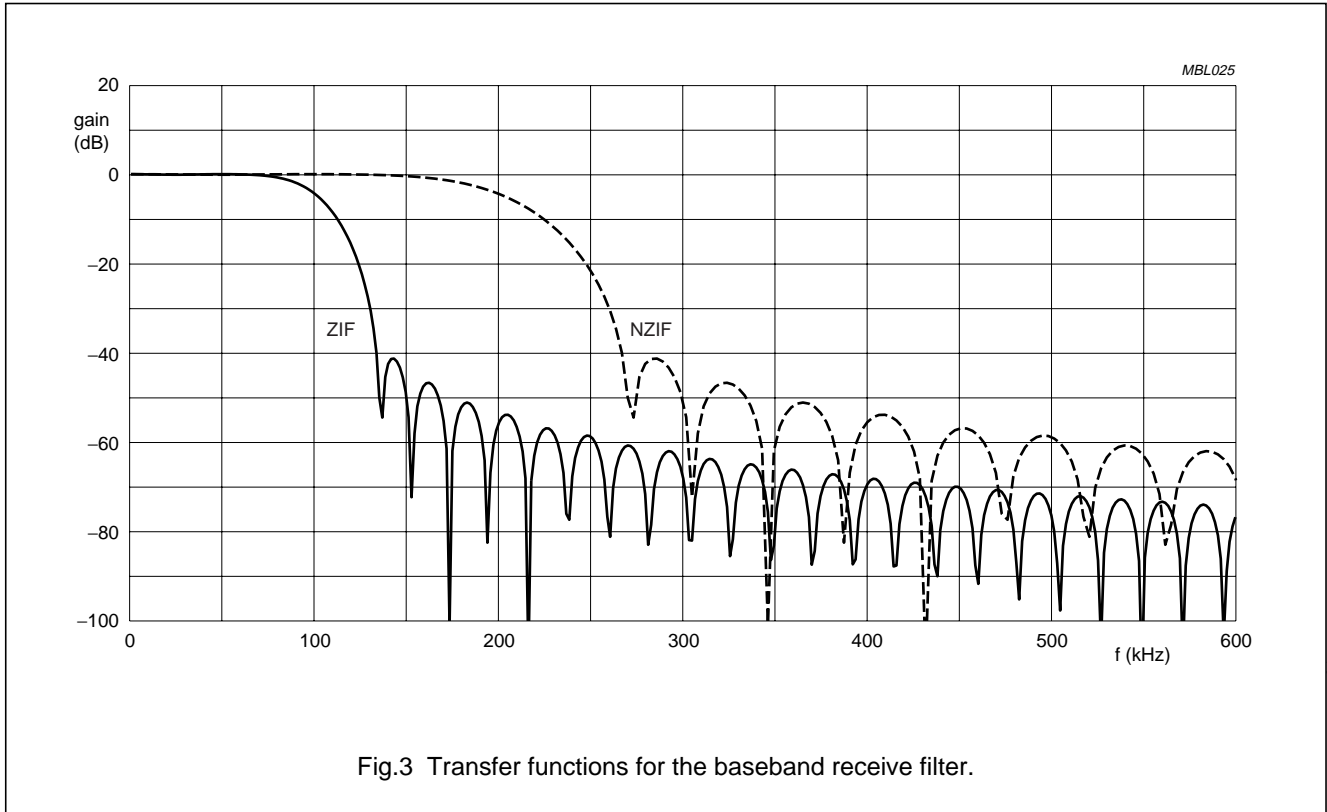

Fig.3 Transfer functions for the baseband receive filter.
- **ZIF (zero IF) mode** for radio sections, which convert the receive signal down to baseband. In this mode the ADC is sampled at 6.5 MHz, the decimation filter samples down by a factor of 24 with a pass band as specified in Fig.3. The serial interface output BDIO delivers  $2 \times 12$ -bit values for I and Q components at 270.833 kHz.
- **NZIF (near zero IF) mode** for radio sections, which converts the receive signal down to a centre frequency of 100 kHz. In this mode the ADC is sampled at 13 MHz, the decimation filter samples down by a factor of 24 with a pass band as specified in Fig.3. The serial interface output BDIO delivers  $2 \times 12$ -bit values for I and Q components at 541.667 kHz.